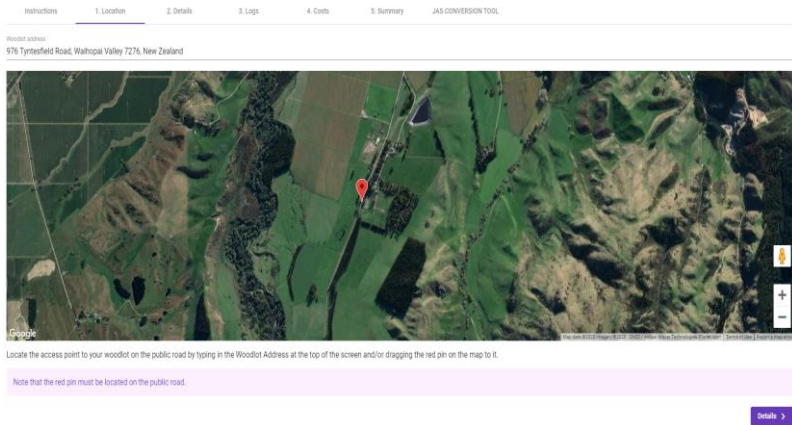

Figure 2: Screenshot from the Location page of the tool showing the Access Point (red pin) from the public road to Case Study 1 woodlot.
When you click on the Woodlot Analysis Tool you are first taken to an Instructions Page which, among other things, advises you to read this Users Guide and suggests information you should have available before you start to use the tool. After having read the Users Guide and the Instructions you next Click the Start button which takes you to the Location Page. The Location Page will have a red pin somewhere on or near a map of New Zealand. You click on Woodlot Address (top left) and enter the address – in this case Tyntesfield Road (select the Tyntesfield, Waihopai Valley, New Zealand address). The red pin moves to an approximate location on Tyntesfield Road. The woodlot you are interested in is located about 2.5 km further to the south on Tyntesfield Road. Zoom in and drag the pin to the access point to the woodlot from the public road (Figure 2). [Note that if you get a message saying the map needs to be updated it is likely to be due to one of three things; (1)